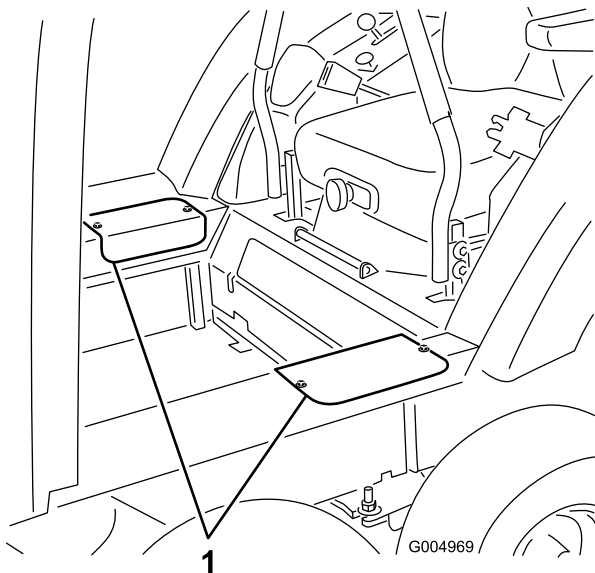

Figure 50
24. Install the side access covers with the screws previously removed (Figure 50).